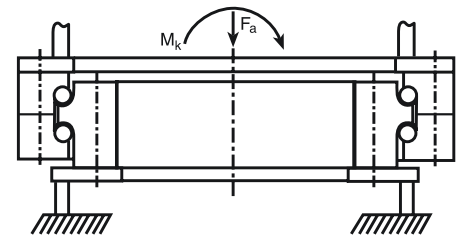

Figure 12: "Supported" axial load
- The axial load F_a acts as compression load, i.e. the axial operating force F_a resulting from the axial load does not subject the bolts to tensile stress (compare Figures 12 and 13).